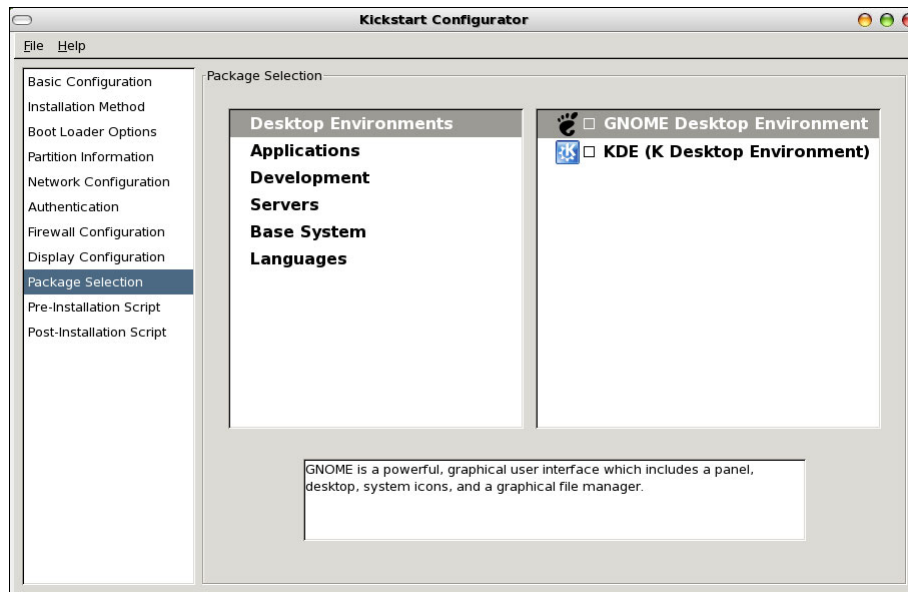

Figure 0-6 Package Selection panel (©2008 Red Hat, Inc.)
8. Figure 0-6 shows the Package Selection panel. It is not possible to select individual packages from this panel. However, you can add individual packages to the %packages section of the Kickstart file after saving it.